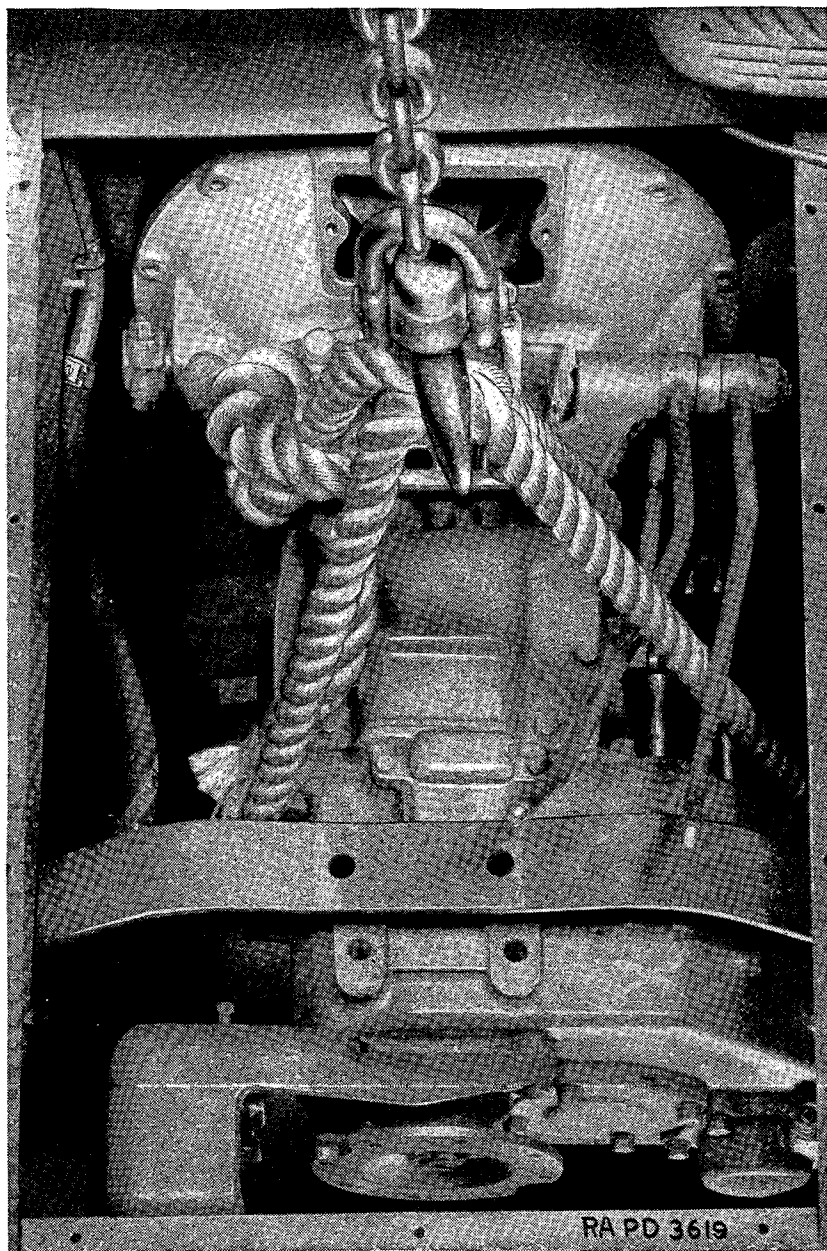

FIGURE 84.—Transmission assembly removal.
i. Mount sling around transmission—1-inch rope, chain block and hook. Put rope around and under transmission, making certain that assembly will be balanced in sling during removal in order to prevent injury to splined shaft (fig. 84).